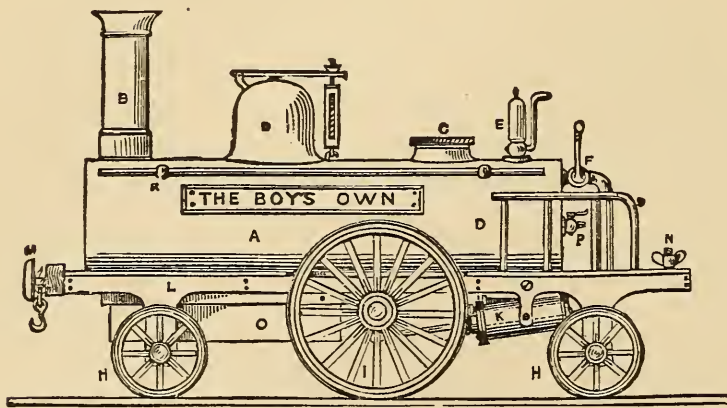

Fig. 2.
At the commencement of this chapter is a drawing of the model we are about to build in its finished condition, and Fig. 2 is a side view of the same, of which A is the boiler, B the chimney, C a screw head to fill boiler with water, D the steam chest with safety valve on top, E the whistle, F the steam tap to start the engine with, HH are the leading and trailing wheels, and I the driving ditto, K the cylinders, L the
Fig. 9 shows you an underneath view of the framework and the position to place the cylinders in, which should be supported by a couple of lugs (A A) screwed to the bed-plate B which must have a piece cut out on either side to allow the driving-wheels (C) to work in, as at D, because, being larger than the others, they project beyond the top of the bed-plate, as shown in Fig. 2. You can now screw on by means of the hook F the buffer-beam, previously cut from a piece of mahogany, five inches long, half an inch thick, and one inch deep, nicely squared and sand-papered.